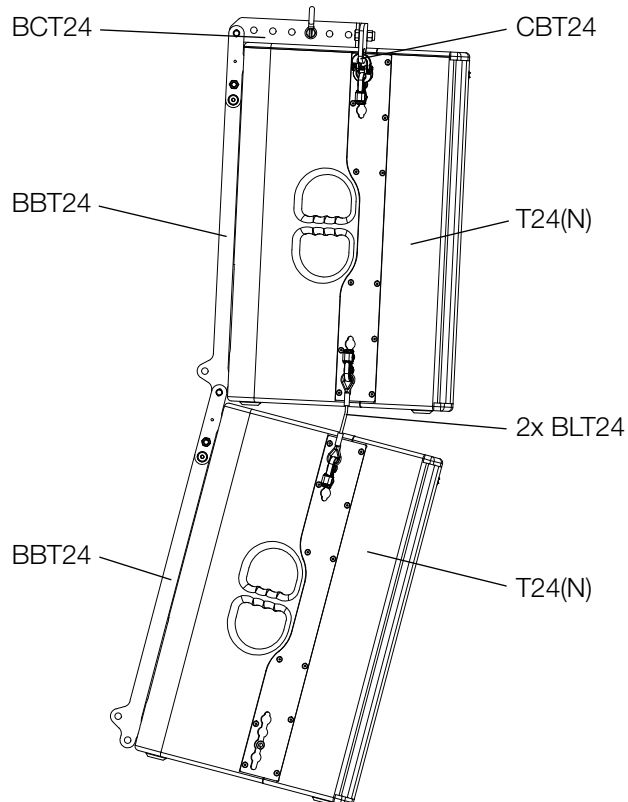

Figure 3.12 - Standard variant
The standard variant has established itself in which two T24(N) loudspeakers are used with two BBT24 brackets, a CBT24 cradle bar for flying and a BCT24 rigging adapter. (See figure 3.12)